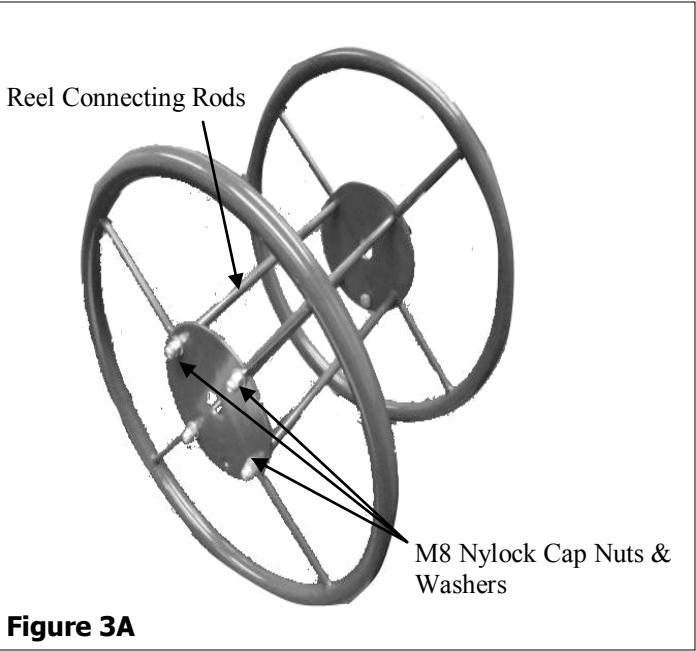

Figure 3A
3. Attach Hose Reel End to the Reel Connecting Rods using (4) M8 Nylock Nuts & Washers . Repeat opposite side. See figure 3A.